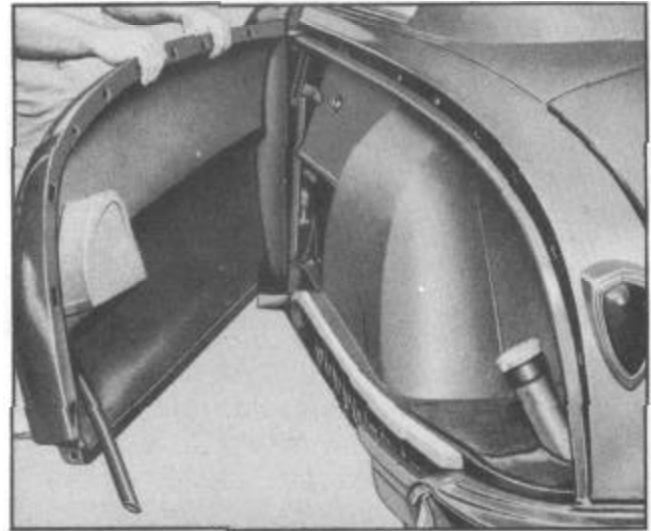

FIGURE 14
12. Lift off rear fender. See Figure 14.